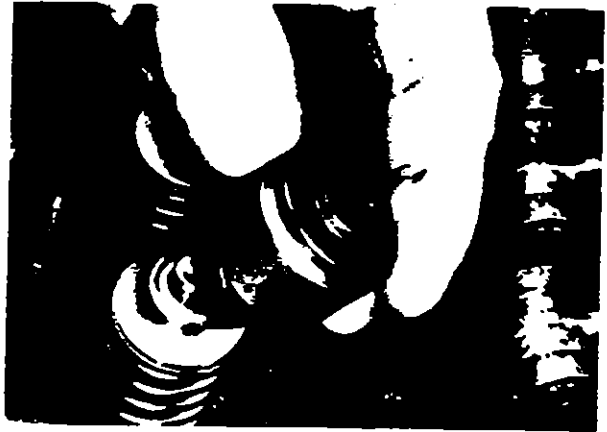

Fig. 1.6.19
2. Install Jacobs valve stem caps on right-hand exhaust valves (one per cylinder) (Fig. 1.6.19). Press caps firmly over valve springs. Hexagon cover studs must be removed if located near this valve.